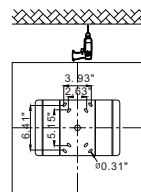

Figure 8
- 1.Drill the alignment holes on the top ceiling, make them match to the holes on mounting bracket.(Figure 8)